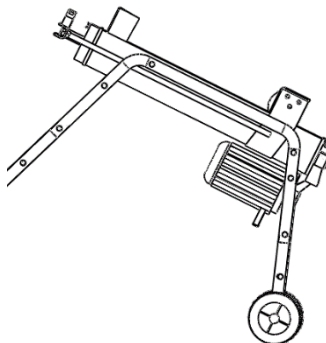

Fig.6
8. Clean the oil drain screw before turning it back. Make sure they are tightened to avoid leaks before placing the log splitter horizontally (Fig.6).